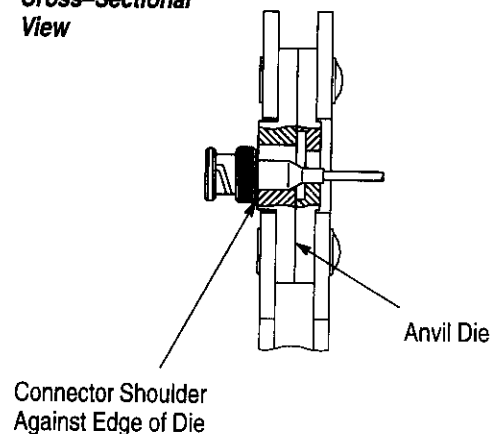

Figure 4
4.2. Ferrule (Figure 4)
3. Place the ferrule in the crimping chamber on the anvil die so that the shoulder of the connector body is against the edge of the die. Refer to Figure 4.